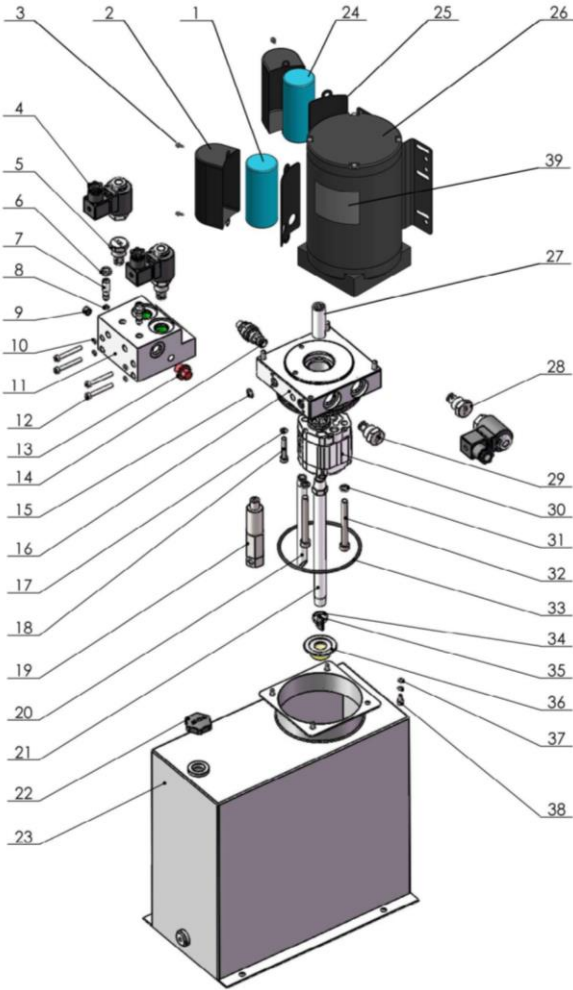

Fig. 42
Power unit part list explosive view (Fig42))
5. b) Turn the Two-way valve to normal working position (See Fig. 42), push button Up to on the remote control to rise the lift, check if both platforms are at the same height, if not, do the synchronous adjustment till the two safety devices can be locked or released at the same time.